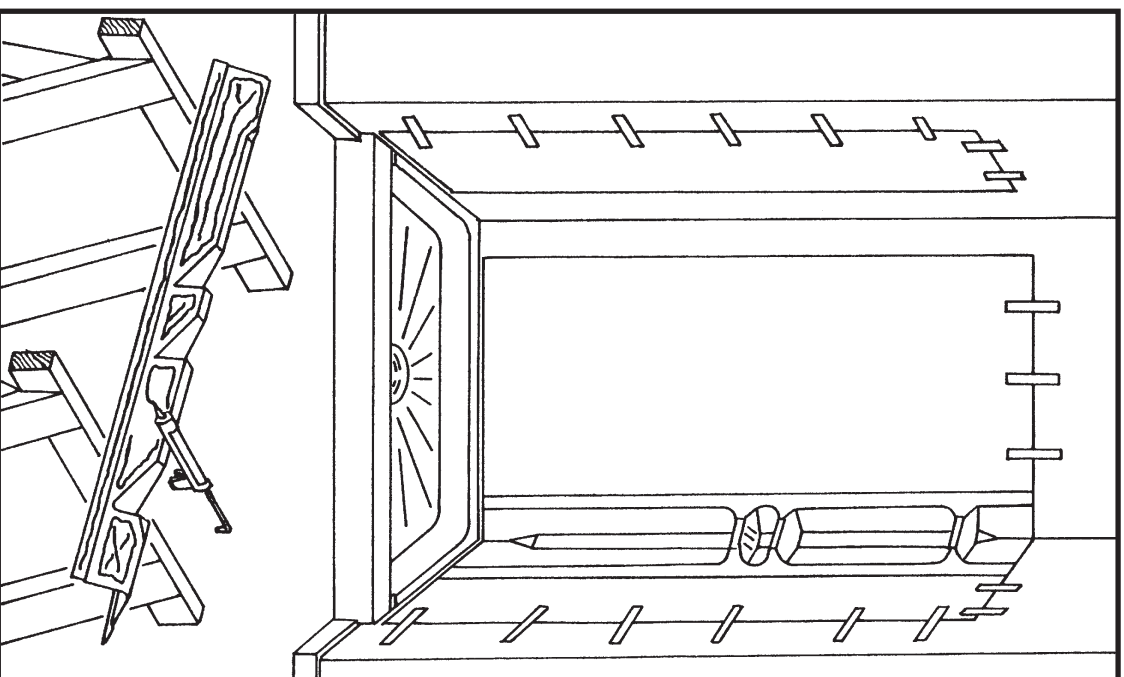

Fig. 4
4. Apply adhesive to back side of formed corner as shown in illustration (Fig. 4). Align top edge of corner panel with guide lines, press in place working from top to bottom. Short strips of masking tape may be applied to hold corner panels in place until adhesive begins to bond. Repeat for remaining corner panel.